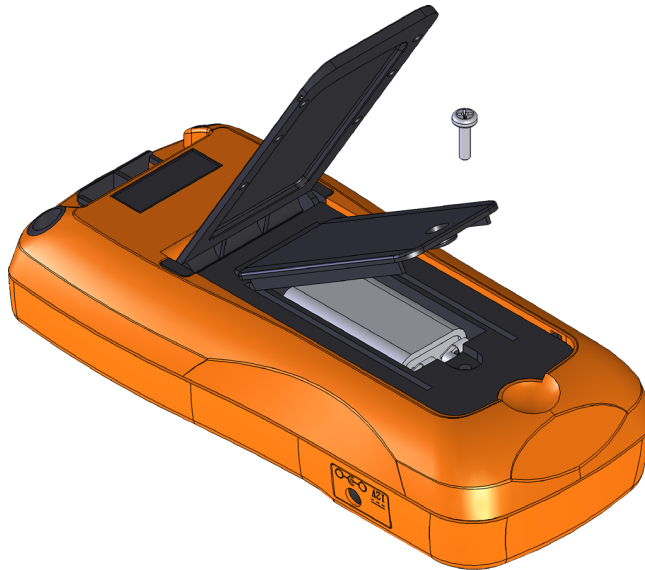

Figure 1-1 Installing the batteries
- 1 **Open the battery cover.** Lift the tilt stand. Loosen the screw with a suitable Phillips screwdriver and remove the battery cover as shown in Figure 1-1.